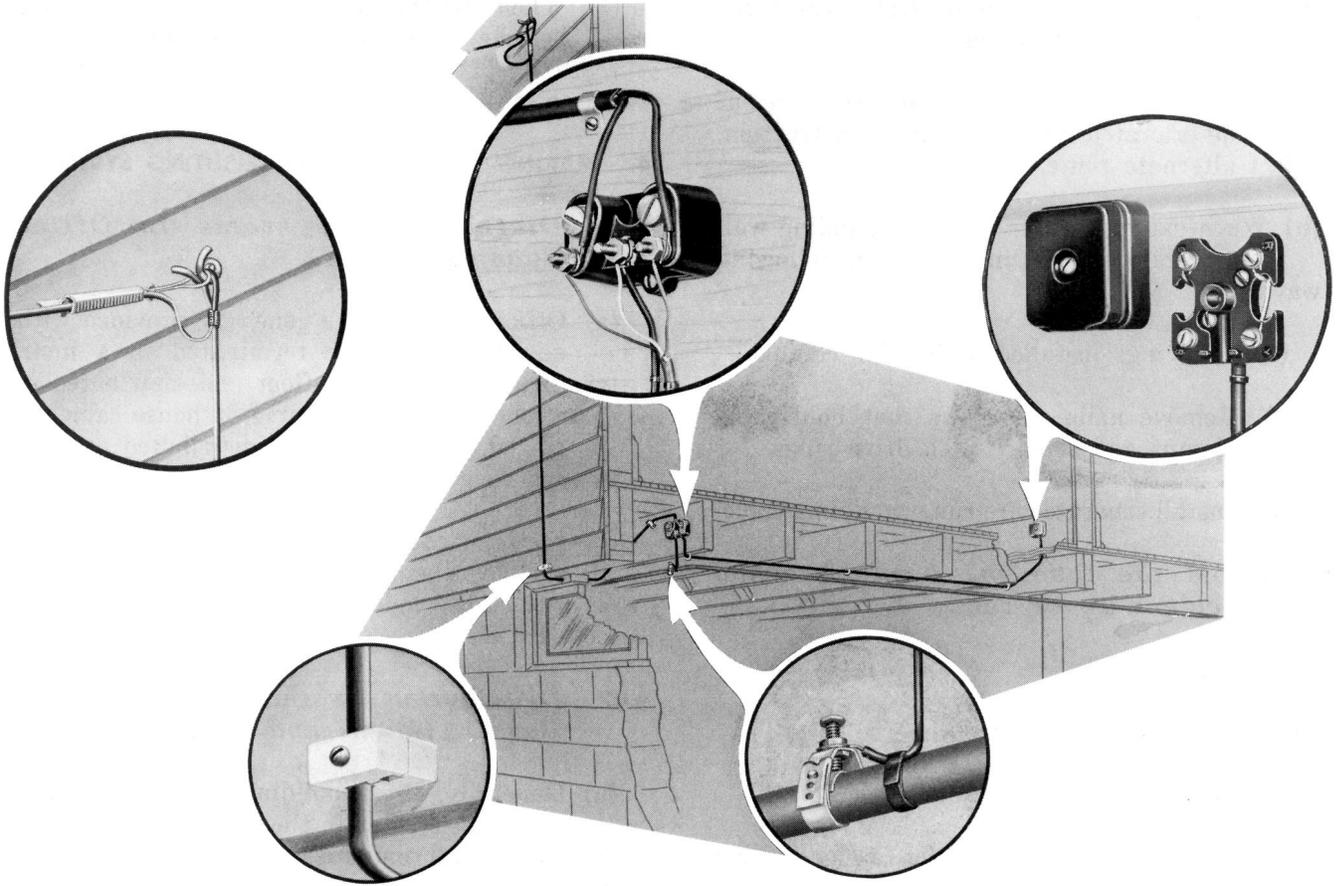

Fig. 4—Typical Wiring Routes
- (1) In finished buildings, such as apartment houses, multiunit dwellings, or other living quarters, if the service installed is for 0-1 key service, keyless stations, or extensions from PBX-type service
- (2) When service orders have been issued in advance, pending the availability of facilities to connect service.
3.02 Various points which should be considered when selecting routes for wire and cable are shown in Fig. 4 and Table A.